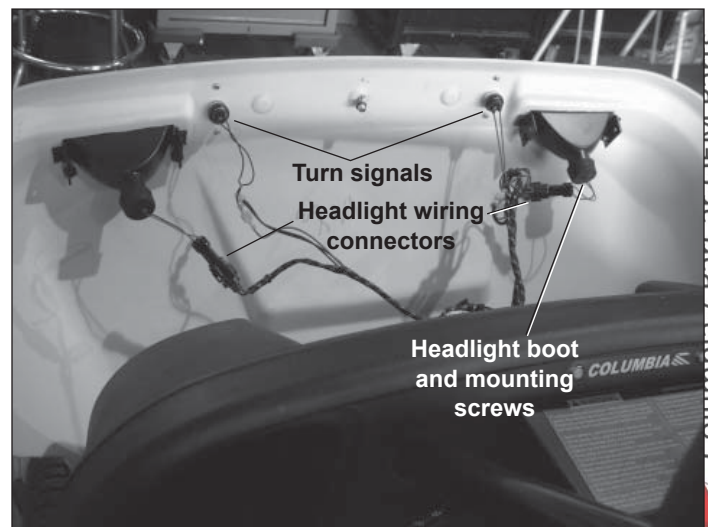

Figure 8-2. Headlight and Turn Signal Wiring Connections
5. Disconnect the headlight wiring connectors (Figure 8-2).
2. Pull the rubber boot away from the headlight. Remove two screws securing bulb to headlight assembly (Figure 8-2).